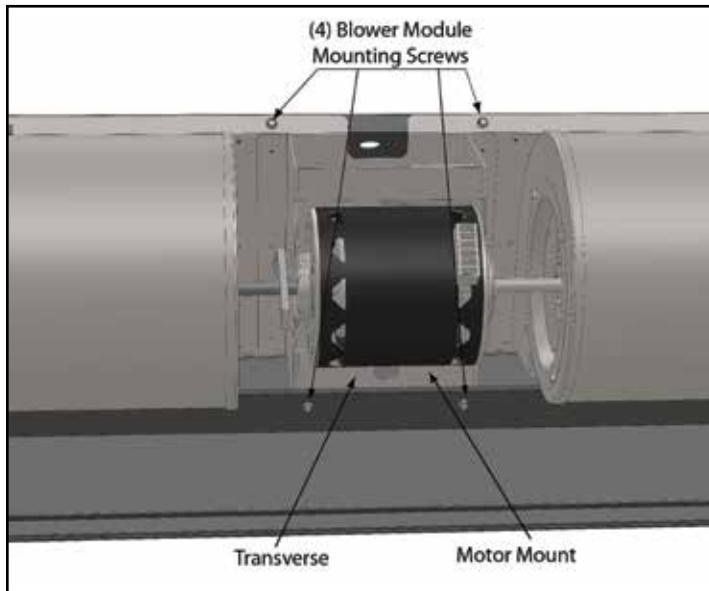

FIGURE 12 - Location of screws
4. Removing the blower module requires removing (4) #12 self-drilling sheet metal screws. Using a 5/16" hex driver, first remove the (2) screws that go through the Transverse into the Motor Mount. **See Figure 12.**
5. After removing the (2) screws in this step, the approximately 40 lbs. module will be free to drop down out of the unit. While holding the module in place by pushing up onto the motor, remove the top, final (2) screws that go through the Blower Plate into the Main Channel. **See Figure 12.**